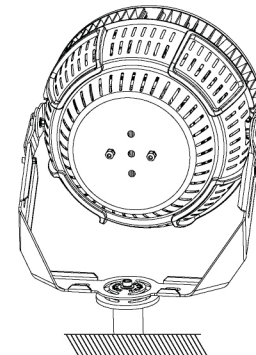

Figure 7
1. Fix the product on the disc holder and lock the screws, no need too tight. (Figure 7);